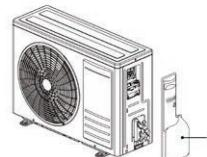

fig. 23 -
- 1.Retire o painel lateral (1 - "fig. 23 -").